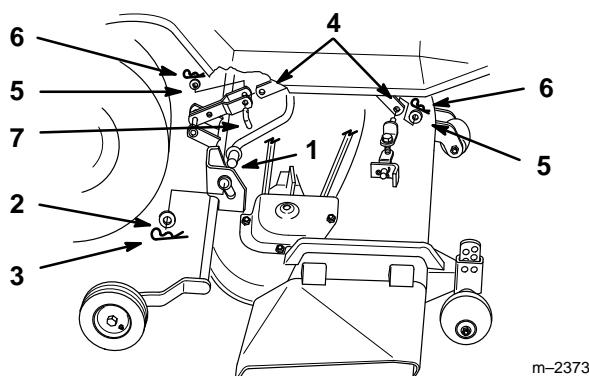

Figure 8
- Place rear guide bushings, first left side then right, onto lift arms then slide deck left into position (Fig. 8).
- Secure deck to rear lift arms with 3/4" washers and large hairpin cotters (Fig. 8).
- Install front adjustable links to front lift arms with 1/2" washer and small hairpin cotter (Fig. 8).
- Attach rear link to attachment lift with link pin, 1/2" washer and small hairpin cotter (Fig. 8).